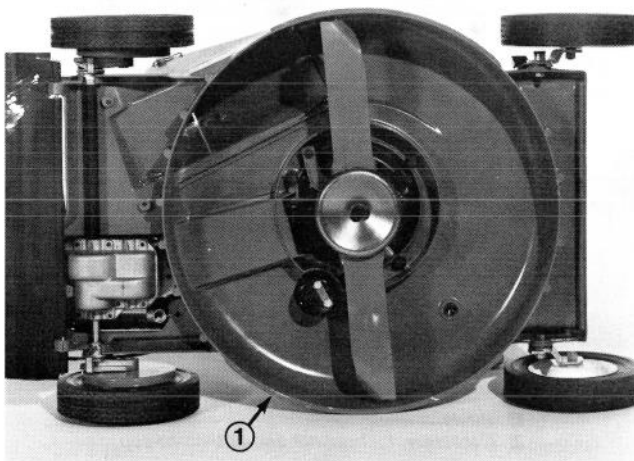

Figure 35
2. Tip mower on its left side (Fig. 35). Remove grass clippings and dirt with a garden hose or wooden scraper.